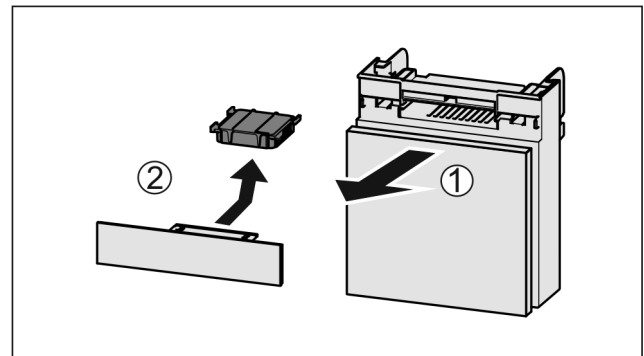

Fig. 160
- Pull out the compartment Fig. 160 (1).
- Remove the carbon filter Fig. 160 (2).